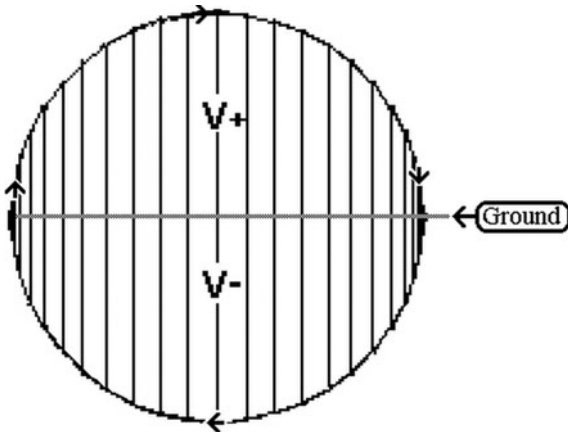

Figure L53-7
2. Figure L53-7 graphically shows the increase in the voltage of the electron as it speeds up and slows down. The voltage actually inscribes a circle.